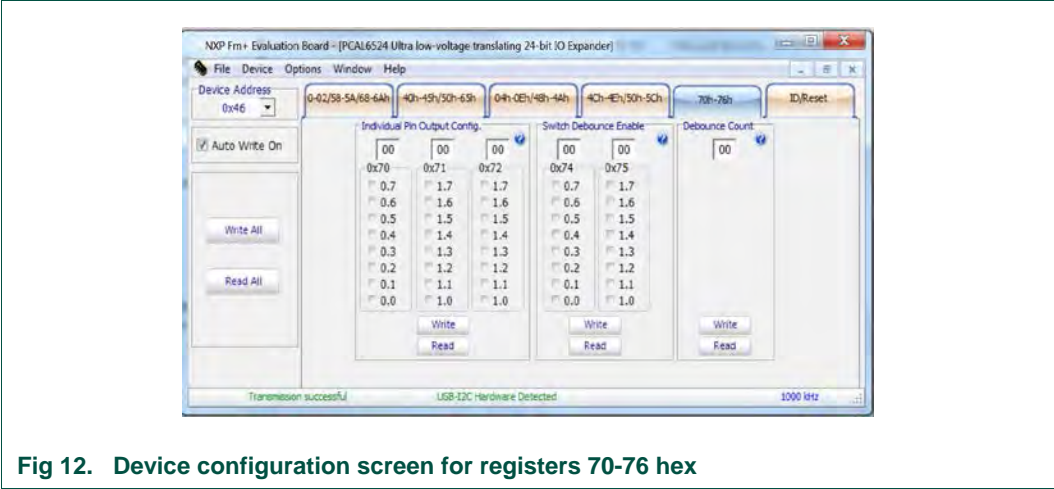

Fig 12. Device configuration screen for registers 70-76 hex
6. Fifth group registers read or write are shown in Fig 12.
| Fig 12. | Device configuration screen for registers 70-76 hex | 14 |